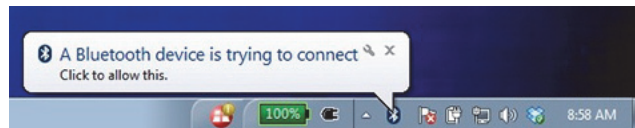

Figure G-10 Balloon over the Bluetooth® icon
1. On the computer, point to the Bluetooth icon in the notification area of the taskbar, and then click on the balloon that appears over the taskbar (see Figure G-10 on page 181).